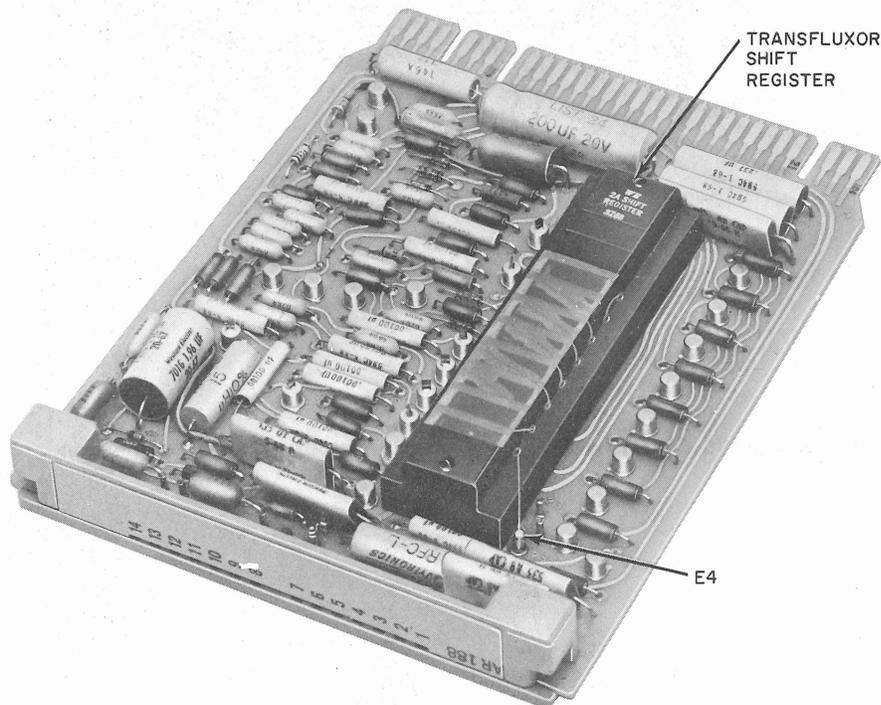

Fig. 8—AR188 CP Showing on Encoded Transfluxor Shift Register
- (2) Remove the card lock strip by loosening the screws holding the bar in place.
- (3) Use a 748A card extracting tool or the notched end of the lock strip to extract AR188 CP.
- (4) Inspect the transfluxor. It should have two 36-gauge wires threaded through each of the eight holes in the transfluxor. (Refer to Fig. 8.) In the event that the transfluxor has not been encoded, refer to the section entitled 85A2 Data Selective Calling Service Stations—150-Word Per Minute Half-Duplex Operation—Maintenance (581-131-301) for instructions on encoding the transfluxor.
- (5) Replace the AR188 CP in the DAS and reinstall the locking bar.
- (6) Reconnect the power cord to the power receptacle.